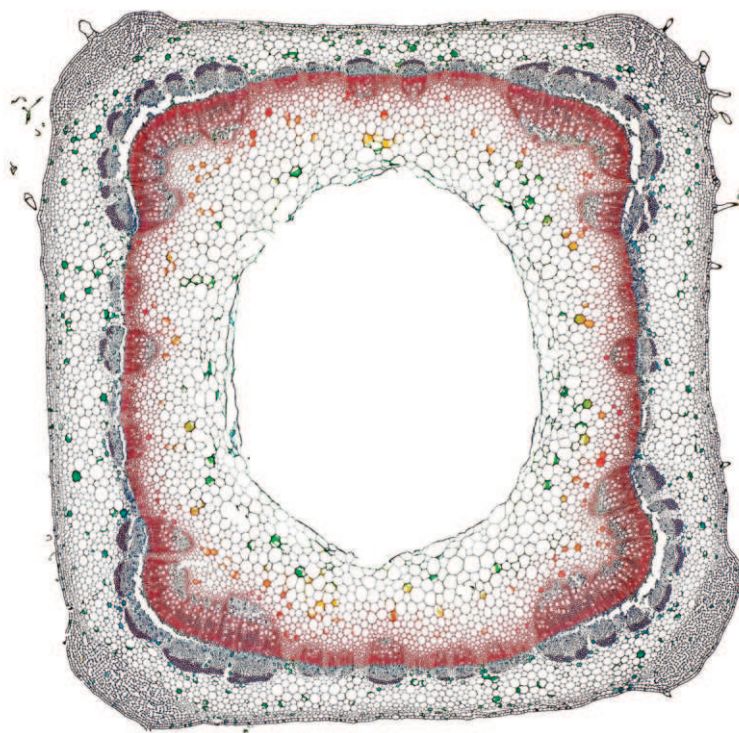
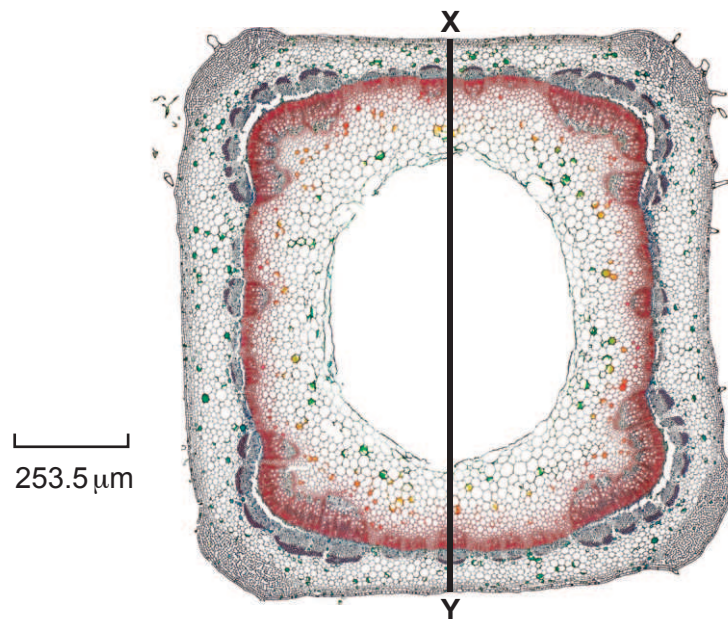

Fig. 2.2
Fig. 2.3
(b) Fig. 2.2 is a photomicrograph of a stained transverse section of a different stem.
Identify **three** observable **differences** between the stem in Fig. 2.2 and the stem on **M1**.
- (c) Fig. 2.3 is the same photomicrograph as that shown in Fig. 2.2. The line **X–Y** is drawn across the width of the stem.